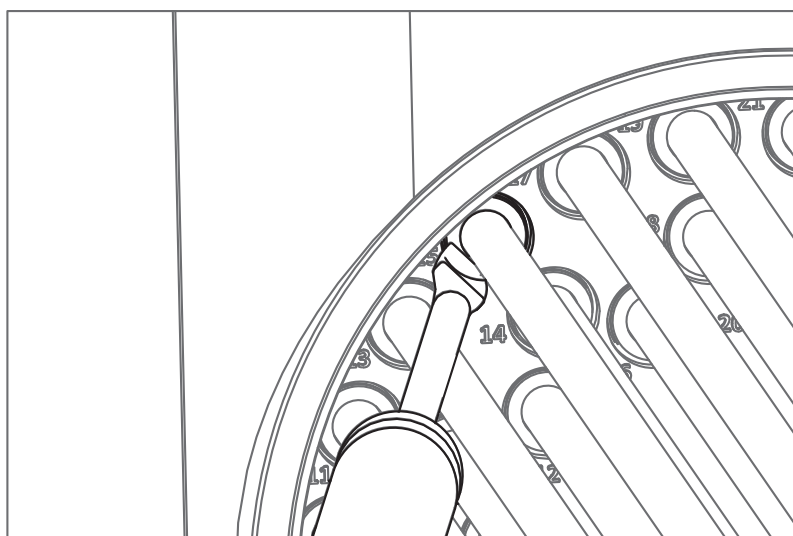

Figure 7-7: Tube Release Mechanism
3. Remove all tubes from the Rotary Valve. Use a screwdriver to press the black release button before pulling the tube out (Figure 7-7). **Ensure that the tubes are numbered before removing them.**